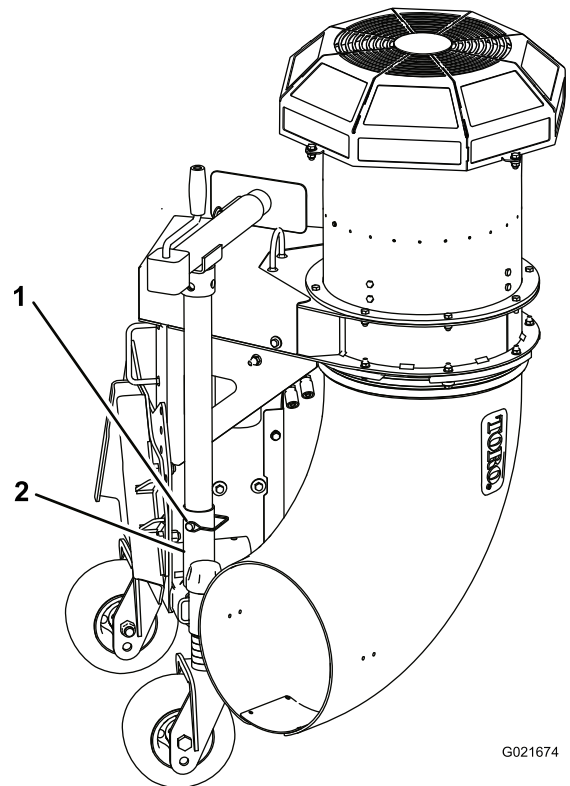

Figure 5
5. Remove the snapper pin securing the jack stand tube to the storage tube (Figure 5). Remove the jack assembly from the storage position.